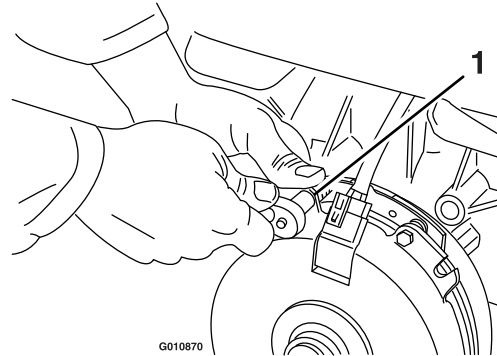

Figure 70
- A. Loosen both brake-mounting bolts 1/2 to 1 full turn as shown in Figure 70.